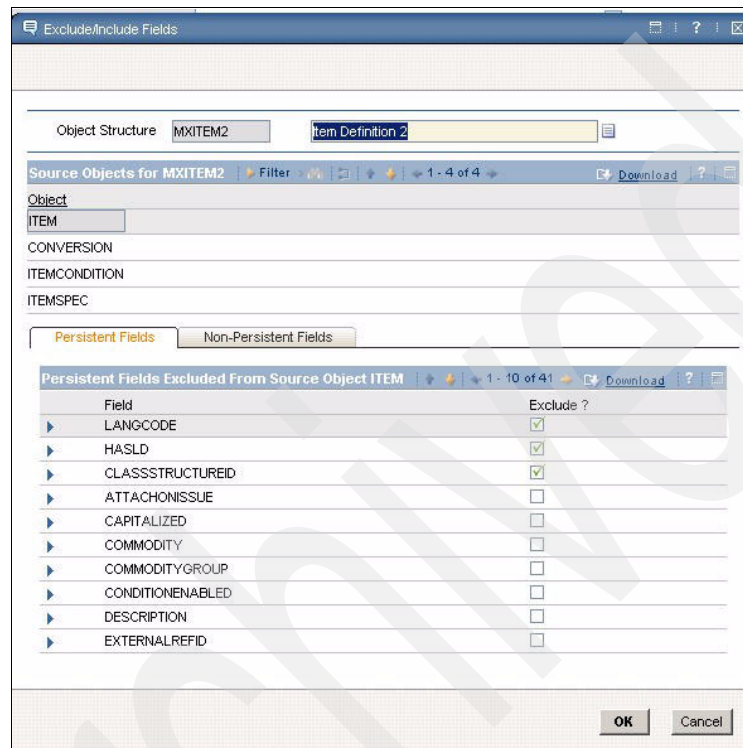

Figure 8-59 Object Structure - Persistent/non-persistent fields
- Persistent fields are always included and non-persistent fields are always excluded. To make the necessary changes, click **Select Action** and select **Exclude/Include Fields**, and make changes in the **Persistent Fields** tab or the **Non-Persistent Field** tab (see Figure 8-59).